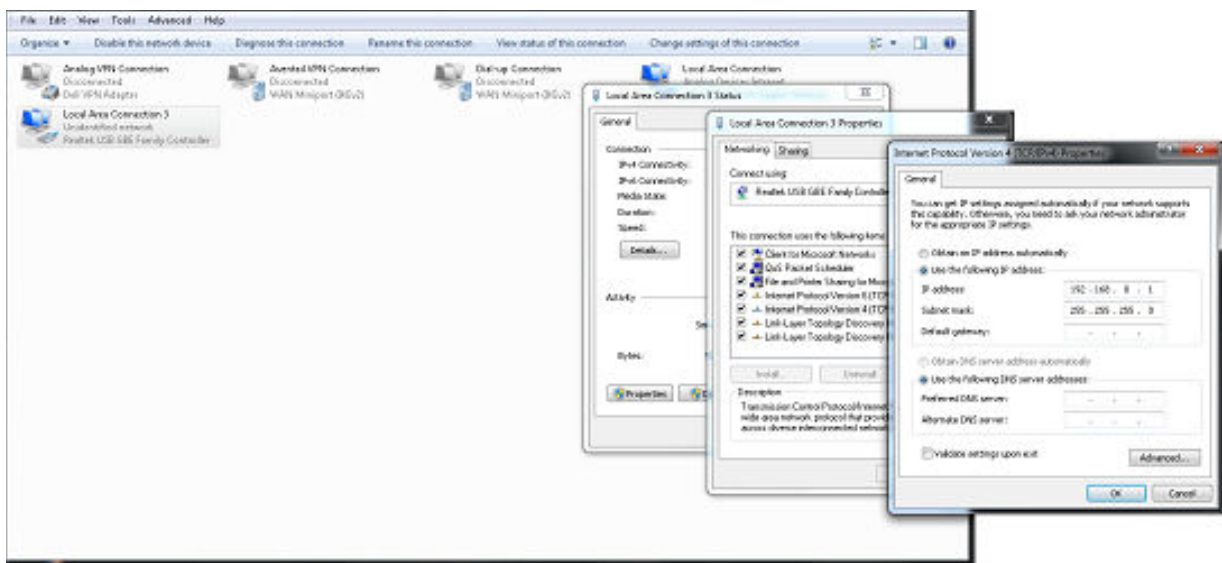

Figure 6. Internet Protocol Settings
6. Double-click the **Local Area Connection** icon that appears (Figure 6 shows **Local Area Connection 3** as an example).